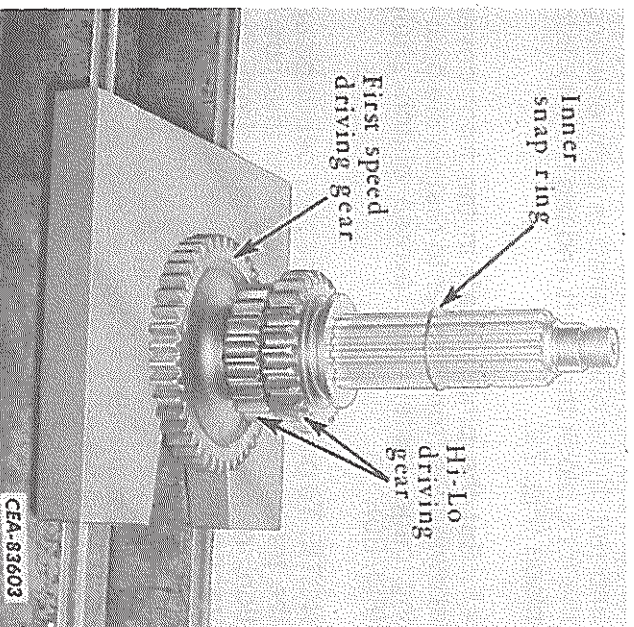
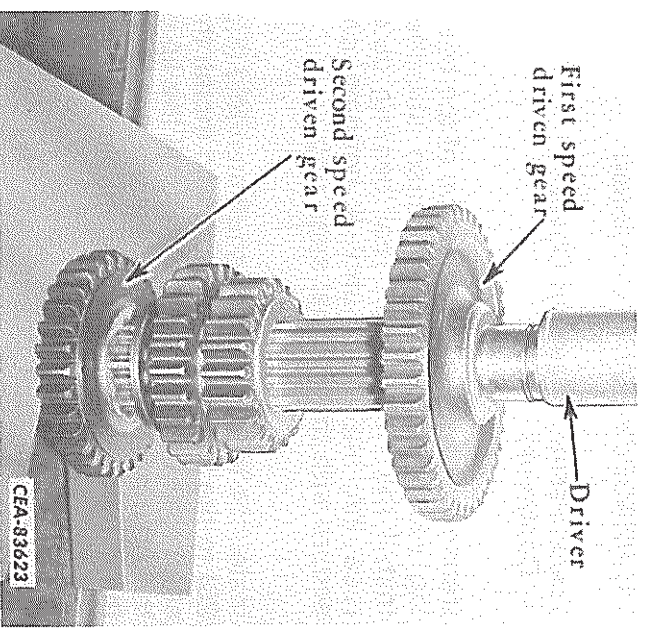
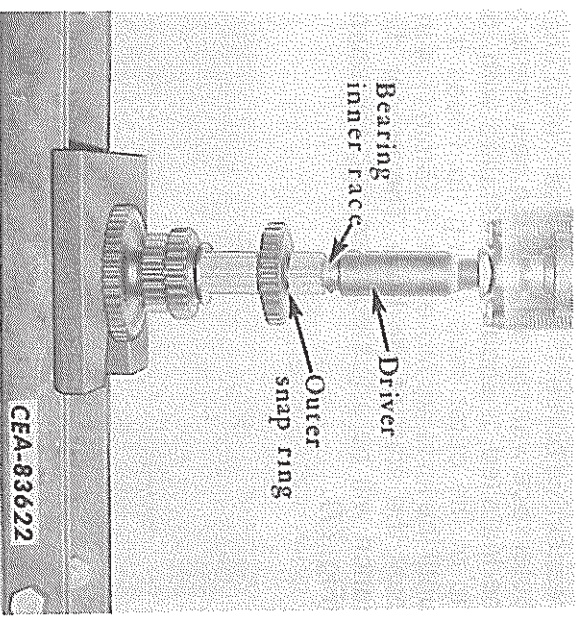

FIG. 74 — Hi-Lo Speed Driving Gear Installed
FIG. 75 — Installing the Second Speed Driven Gear
FIG. 76 — Installing Front Bearing Inner Race
36. Install the snap ring in the groove farthest from the threaded end of the shaft. Place the first speed driven gear (gear with larger outside diameter) in a press. Press the shaft (threaded end up) into the gear until the snap ring bottoms on the gear (Fig. 74).
37. Install the hi-lo speed driving gear so the shift collar is up. Install the second speed driven gear inner snap ring (Fig. 74).
38. Place the second speed driven gear in a press and press the shaft into the gear until the inner snap ring (Fig. 74) bottoms on the gear (Fig. 75). Install the outer snap ring (Fig. 76).
39. Position the shaft in the press supported by the first speed driven gear. Press the front bearing inner race on the shaft (lip of race down) until it bottoms (Fig. 76).